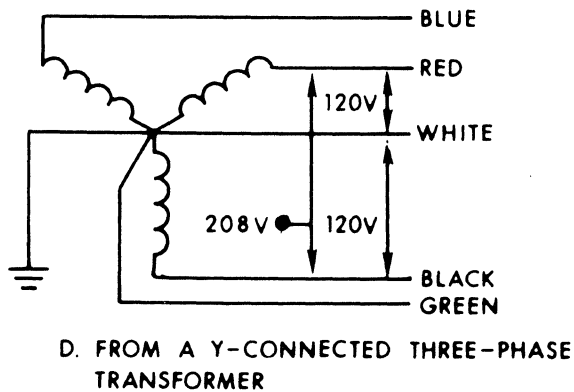

Figure 5-28 Power Distribution Unit: 60-Hz Power Sources and Connections
- Figure 5-28 Power Distribution Unit: 60-Hz Power Sources and Connections.